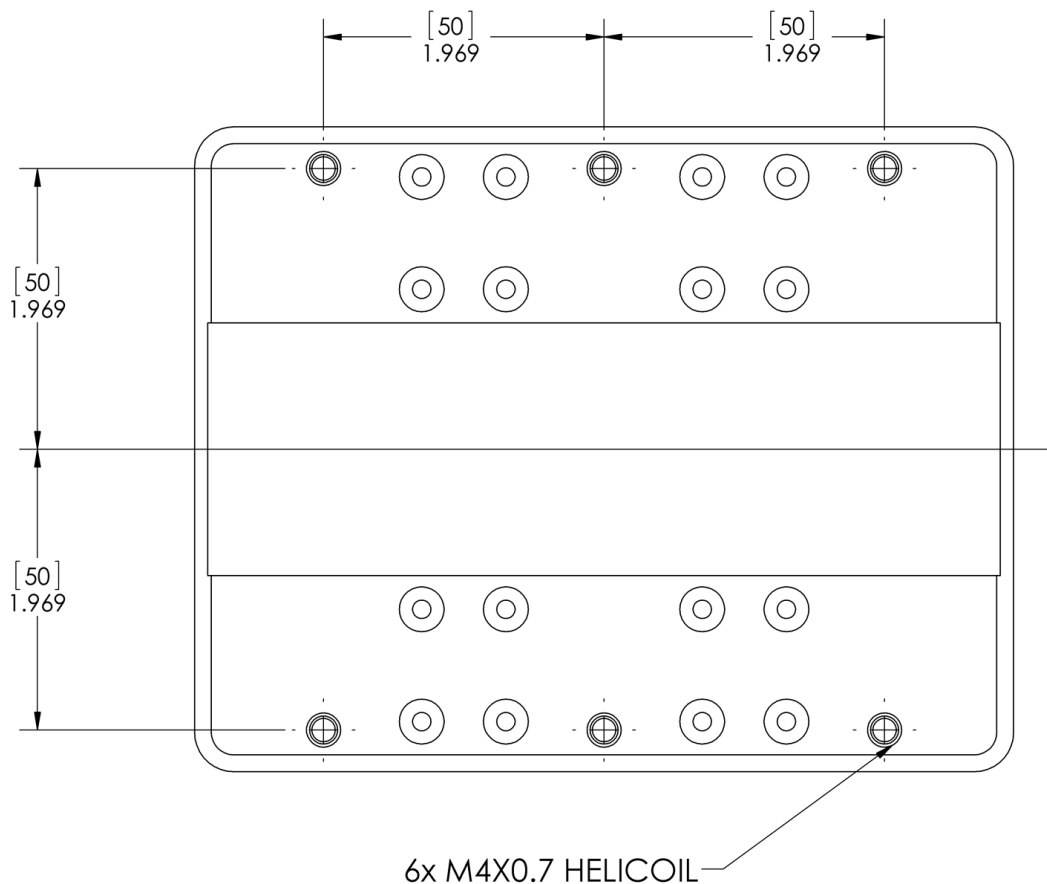

Figure 1: Carriage Bolt Hole Pattern
The bolt pattern on the Carriage has been designed to facilitate process equipment installation. The Carriage has (6) six M4x0.7 mounting holes with a depth of 0.26 inch (6.5 mm) to provide secure attachment points. The mounting holes are spaced 100mm across and on 50mm centers along the length of the Carriage. (See Figure 1)